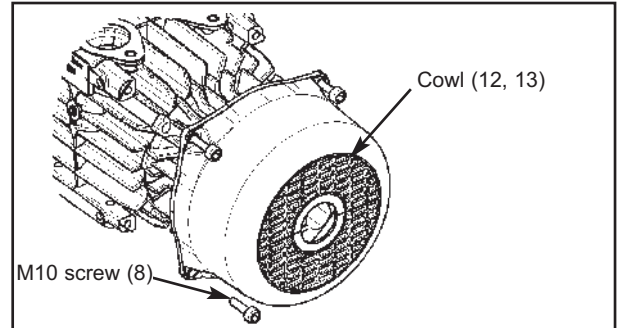

Figure 11
1. Disconnect the compressor from the driver and remove the shaft key (16).
2. Remove the four M10 screws (8) securing the cowl, and remove the cowl (12 or 13) ; See figure 11.